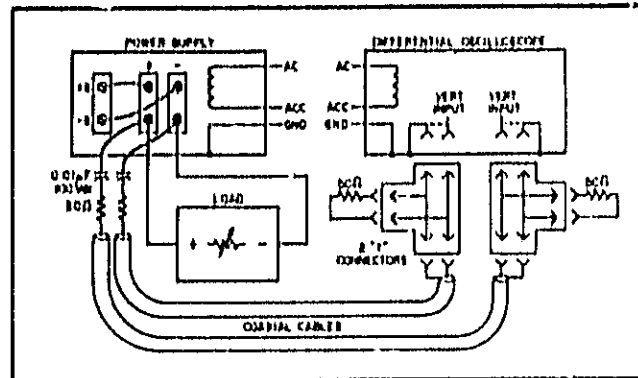

Figure 5-4. Constant Voltage Noise Spike Measurement Test Setup
5-27 Figure 5-4 shows the test setup used to measure noise spikes. Two coaxial cables must be used. Impedance-matching resistors must be included to eliminate standing waves and cable ringing, and capacitors must be connected to block dc. The length of the test leads outside the coaxial cable should be kept as short as possible. The blocking capacitor and impedance-matching resistor should be connected directly from the inner conductor of the cable to the power supply sensing terminal. Notice that the shields of the two coaxial cables are not connected to the power supply
- a. Connect test setup shown in Figure 5-4.
5-29 The circuit of Figure 5-4 can also be used for the display of low-frequency ripple. Simply remove the four terminating resistors and the blocking capacitors.